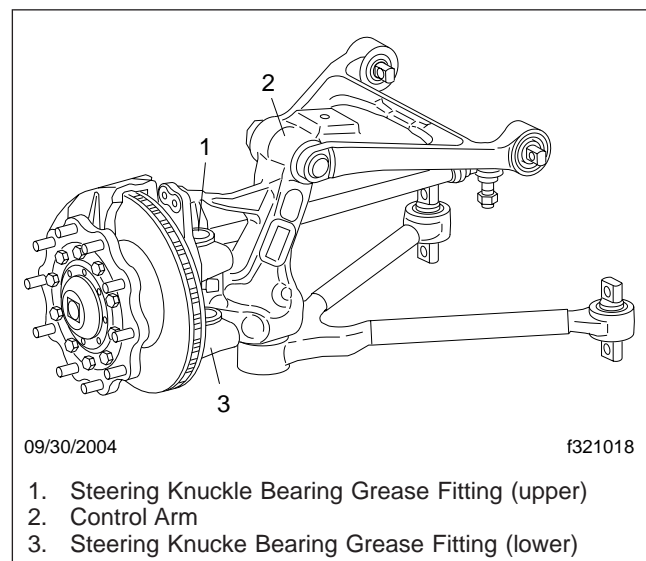
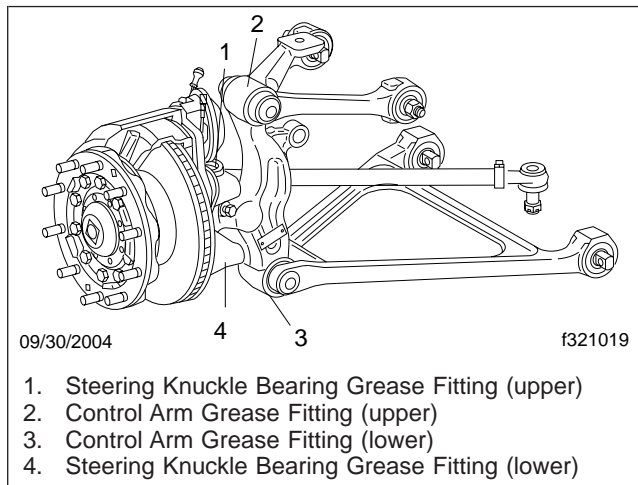

Fig. 4, Pressure Grease Fitting Positions, RL-75E
Fig. 5, Pressure Grease Fitting Positions, RL-75EM
- Lubricate the steering knuckle/control arm at indicated maintenance intervals. Use only an NLGI Grade 2 lithium-based grease, multipurpose grease, or mineral oil on the lubricating points. See **Fig. 4** and **Fig. 5**.